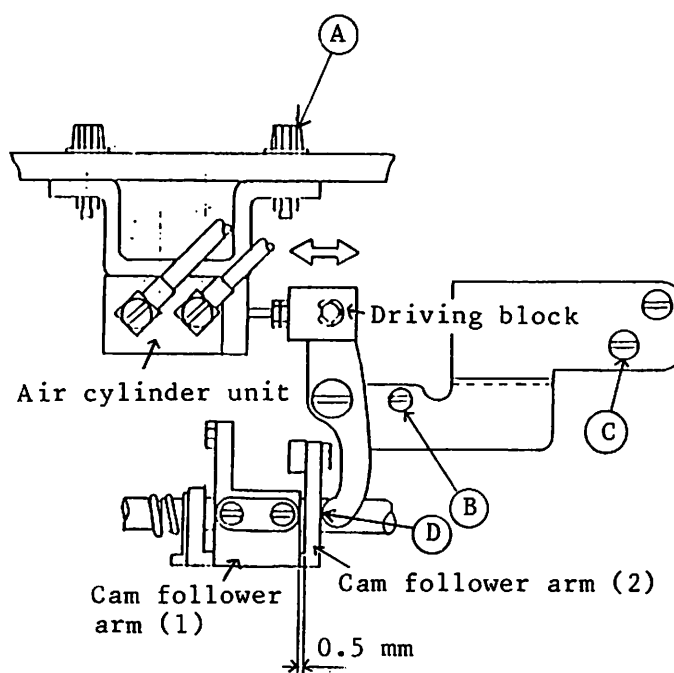

Fig. 10.7
- (1) Installation of air cylinder unit
- (a) Use screws (B) and (C) to install the air cylinder unit. When the air cylinder retracts, gap of about 2.5mm should be developed at part (D). Adjust this gap by moving the mounting plate after screw (C) is loosened.
- (b) When the air cylinder extends, gap of about 0.5mm should be developed between the cam follower arms (1) and (2) as shown in Fig. 10.7 (standard adjustment).
To adjust this gap, loosen screw (A) and move the air cylinder in the direction of the arrow shown in Fig. 10.7.